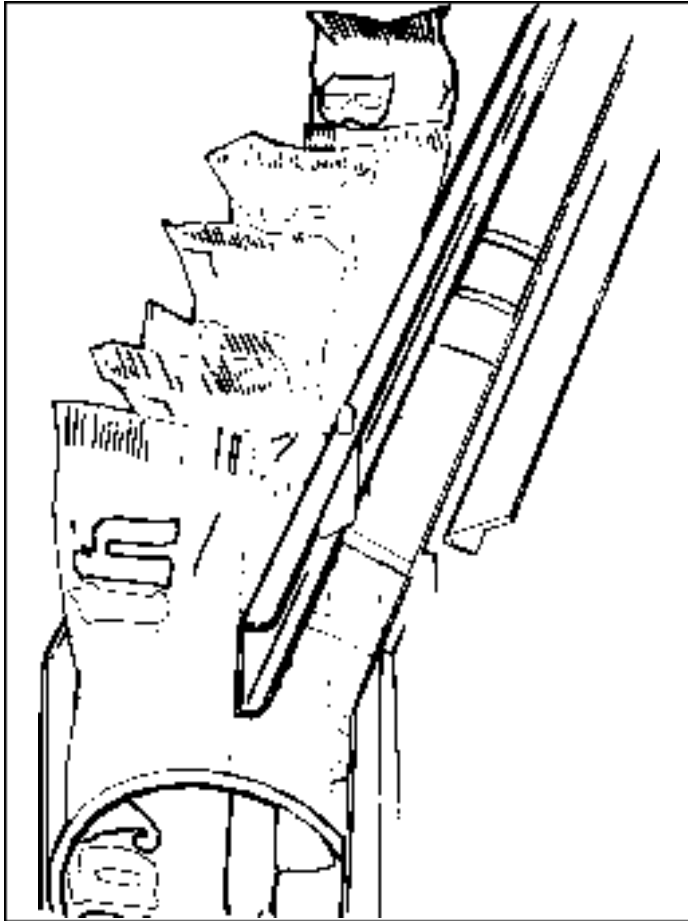

Figure 6. 10-selection shelf product spacer positioned to hold candy upright.
7. **Product Spacers, 10-selection shelf.** The 10-selection shelves are equipped with a product spacer (Figure 6.) that can be pivoted from the right side of each product space. These spacers should be pivoted out to hold the product upright, but not tight against the product. Leave about 1/8" clearance between the spacer and the product.